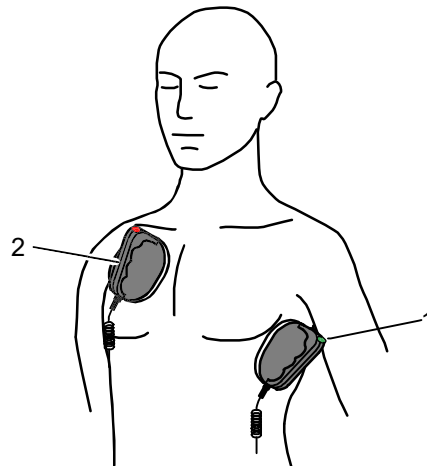

Fig. 5-10 Applying the shock paddles
8. Place the APEX shock paddle (Fig. 5-10, item 1) on the lower left of the thorax beside apex of the heart (5th ICS).
9. Place the STERNUM shock paddle (Fig. 5-10, item 2) to the right of the sternum.